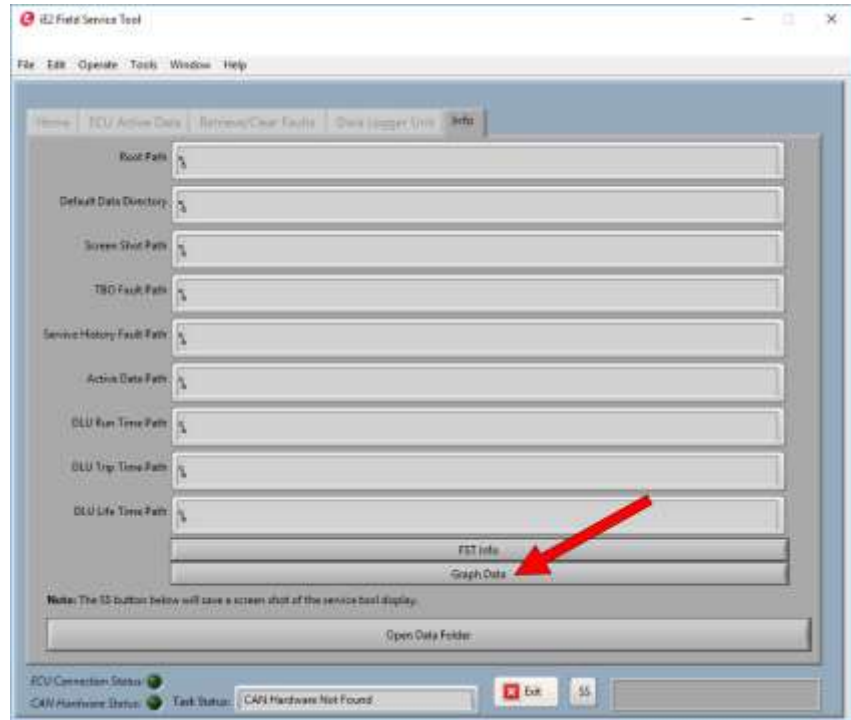

Figure C-34
This feature allows the user to graph runtime data and active data logged by the field service tool. This feature can be used when the ECU is not connected (Figure C-34).
NOTICE: All tabs except Info are disabled when the FST is started with no hardware attached. (Figure C-34)
2. Click on the “Graph Data” button (Figure C-34).